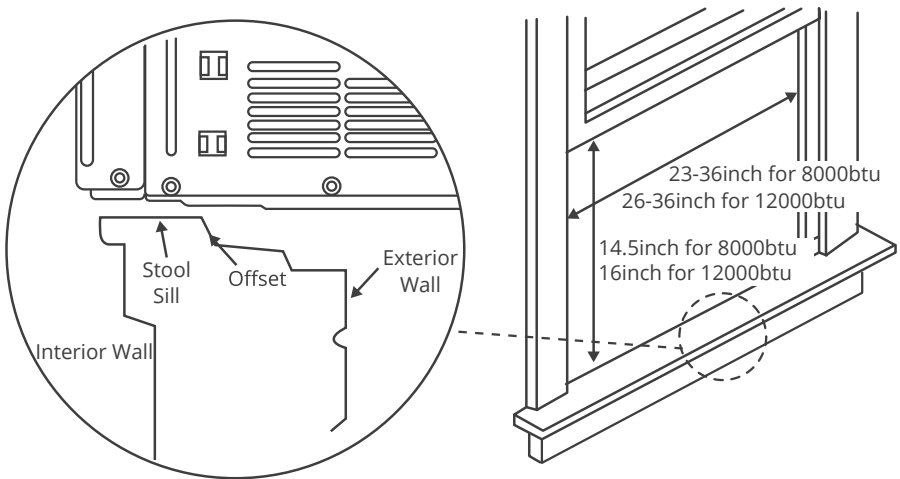

Fig.1
- The Lower Sash (the lower part of the window that moves up and down) must allow for 14.5" of vertical clearance when open, for 8000btu. (See Fig.1). for 16" of vertical clearance when open, for 12000btu. (See Fig.1).